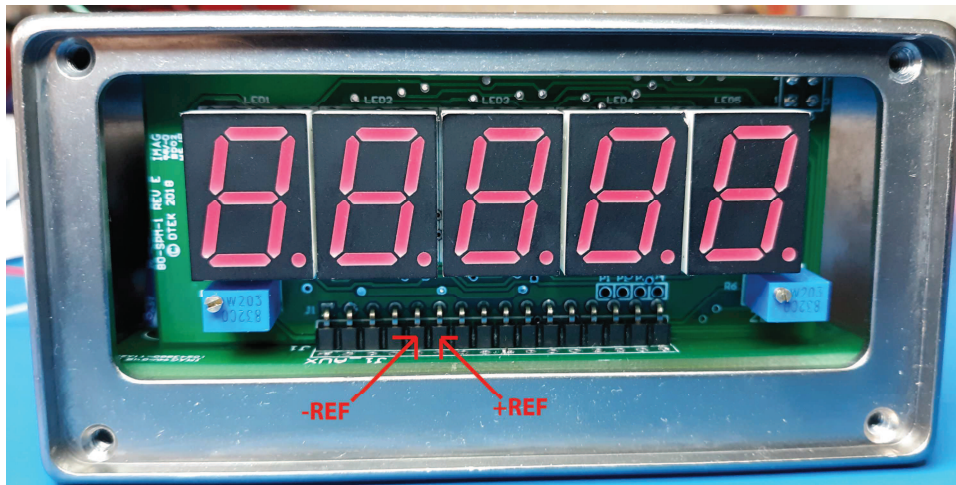

Figure 22: Display Failure Test Points
- 7.5.1 Connect two test leads with "mini grabber" clips to J1:5 (-REF) and J1:6 (+REF) (See **Figure 22**). Take care to only puncture the conformal coating directly on the pins on the top of the 80-SPM-16. The conformal coating must remain intact on the bottom (solder side) of the PCB.